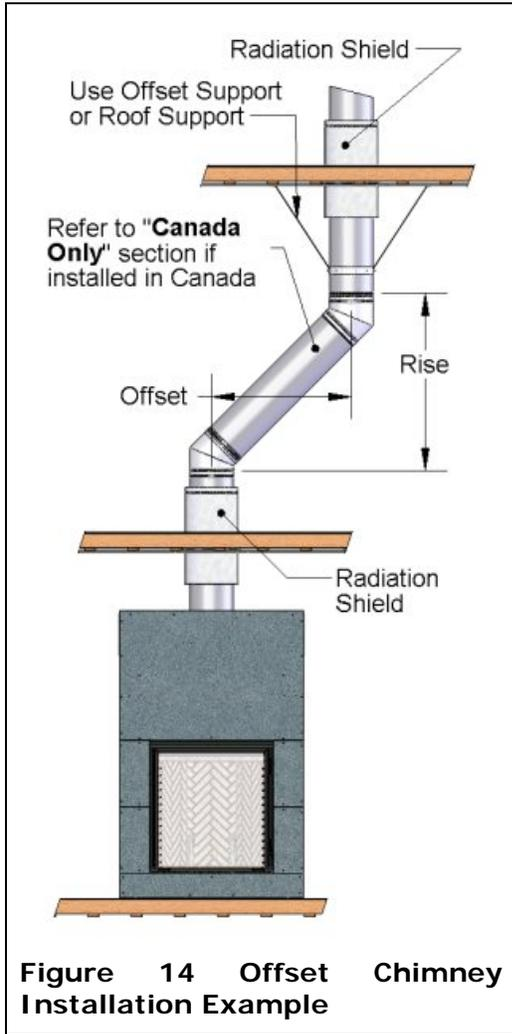
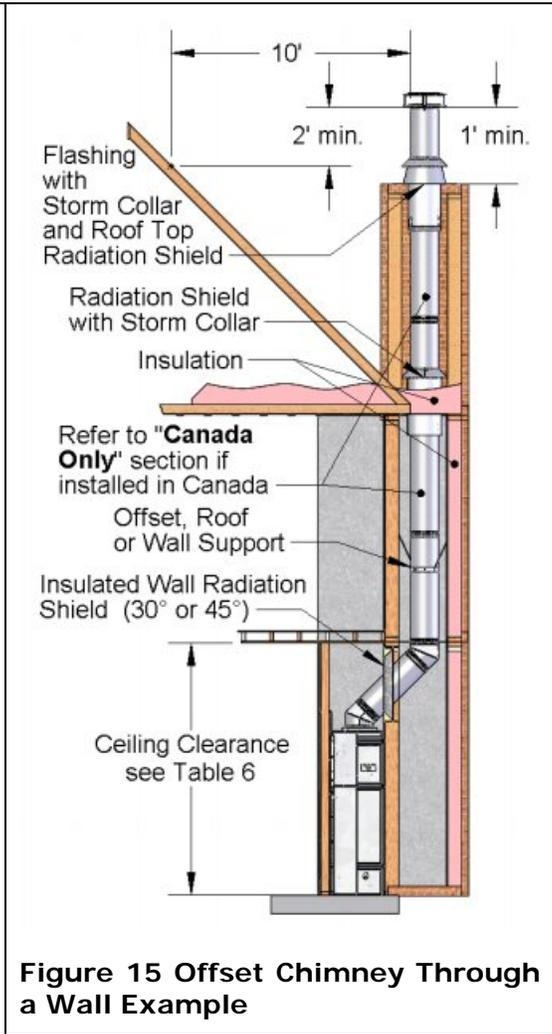
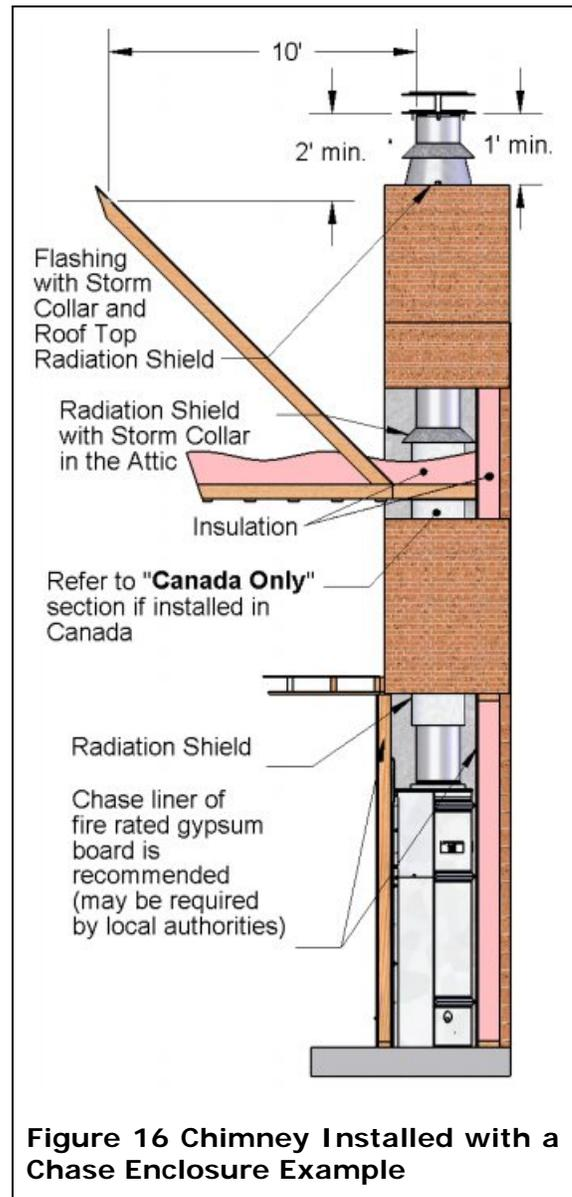

Figure 14 Offset Chimney Installation Example
Figure 15 Offset Chimney Through a Wall Example
Figure 16 Chimney Installed with a Chase Enclosure Example
An elbow may be installed directly on top of the fireplace if required. Use the 12" RIS offset charts in the RIS chimney installation manual which can also be found at: www.icc-rsf.com/en/model-ris-offset-tables. Use the offset option if you need to clear a joist or pass around a cupboard. See Figure 14 and Figure 15 for example.
** These heights assumed that the first elbow is directly on the fireplace as depicted in Figure 15. If this is not the case, these heights have to be increase by the length of chimney installed on the fireplace before the first elbow.
You can also go through a wall at an angle starting directly at the fireplace as depicted in Figure 15. An angled wall insulated radiation shield (RM-12WRSI30 or RM-12RWSI45) must be used wherever the chimney passes through an exterior wall.
If the chimney runs up the outside of the house, we recommend that it be enclosed in a chase structure. The chase should be constructed in such a way that it is an extension of the home (see Figure 15 and Figure 16). It should be well insulated between the footings and the floor of the home to prevent heat loss. If the climate in your area is mild, insulate the chase at least to the first firestop. If the climate in your area is very cold, insulate the chase to the top to keep the chimney warmer, increase the draft, and reduce creosote buildup. We also recommend insulating the ceiling of the chase just as if it were in the attic space. This will prevent cold air from dropping down through the chase and into the room where the fireplace is installed (see Figure 15 and Figure 16).
Some local codes require that the walls be insulated, vapor sealed and sheathed with a fire rated gypsum board (see Figure 15 and Figure 16). We strongly recommend this procedure for all installations to prevent cold drafts from originating in the fireplace enclosure. If you follow this procedure, we recommend that you do not insulate the wall above the front of the fireplace.